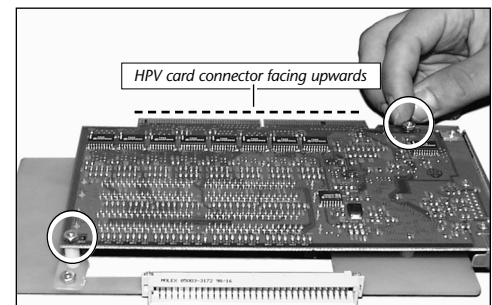

Figure 35: Secure HPV card to adapter board with nuts
- Align the HPV card directly over the video adapter board with the connector of the HPV card facing upwards (**Figure 35**). The holes on the HPV card should align directly with the standoffs on the adapter board. Secure the HPV card to the video adapter board with the two nuts (**Figure 35**) supplied with the adapter kit.